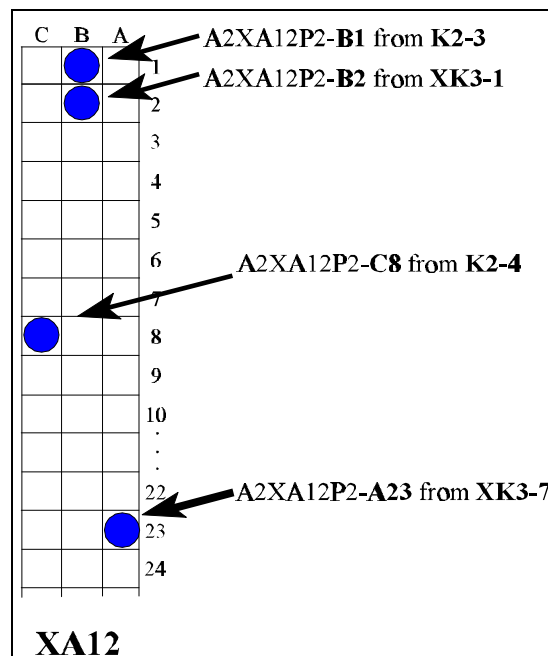

Figure 4 1A2XA12P2
- Insert the following wires into their respective slots on the P2 connector terminal. Refer to figure 4 for the location of each of these connections.